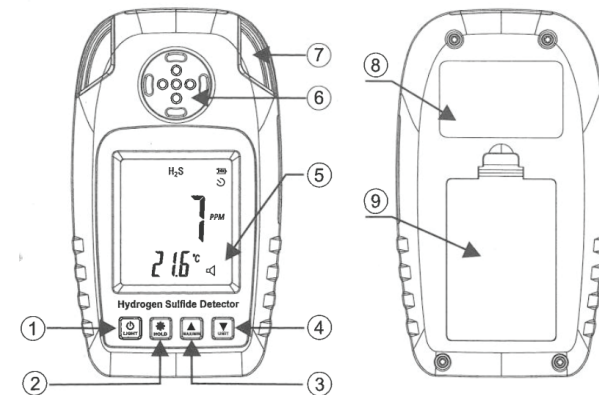

Figure 2
C. NAME OF EACH COMPONENT (FIGURE 2)